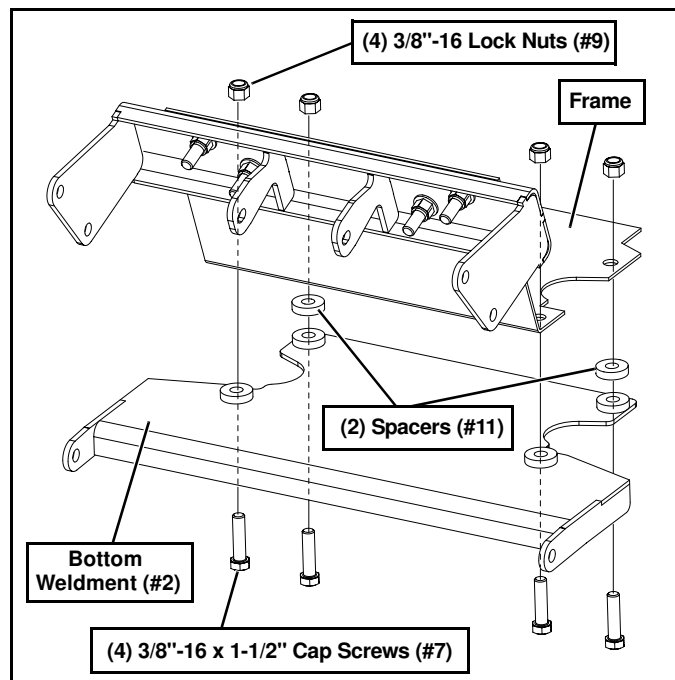

Figure 6
- Align the 4 holes in the Bottom Weldment (#2) with the 4 holes in the bottom of the frame. Align (2) Spacers (#11) with the rear holes and insert between the Bottom Weldment (#2) and frame. (See Figure 6.)
- Insert (4) 3/8"-16 x 1-1/2" Cap Screws (#7) into the Bottom Weldment (#2) and through the frame. Secure with (4) 3/8"-16 Lock Nuts (#9). (See Figure 6.)